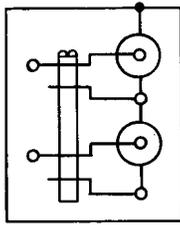

Fig. 5—379A Plug
2.05 The 379A plug (Fig. 5) consists of a pair of coaxial plug fingers mounted in a metal shell. The two outer contacts of the plug fingers are electrically connected together to the shell. The two inner contacts of the fingers are insulated from each other. The 379A plug is used with the 466- or similar-type jacks.